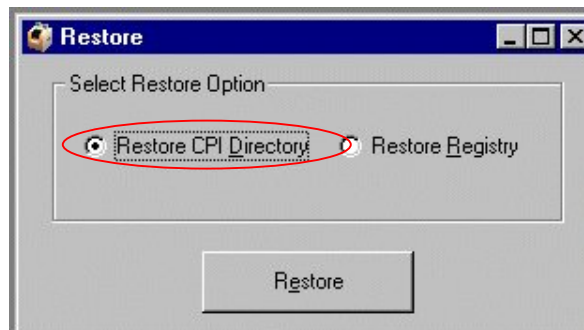

Figure 1-10 Restore Menu
3. There are two '**Restore**' options. Select the '**Restore CPI Directory**' menu option as shown in Figure 1-10:
4. Click the **Restore** button (as shown in Figure 1-10). The following menu is displayed: